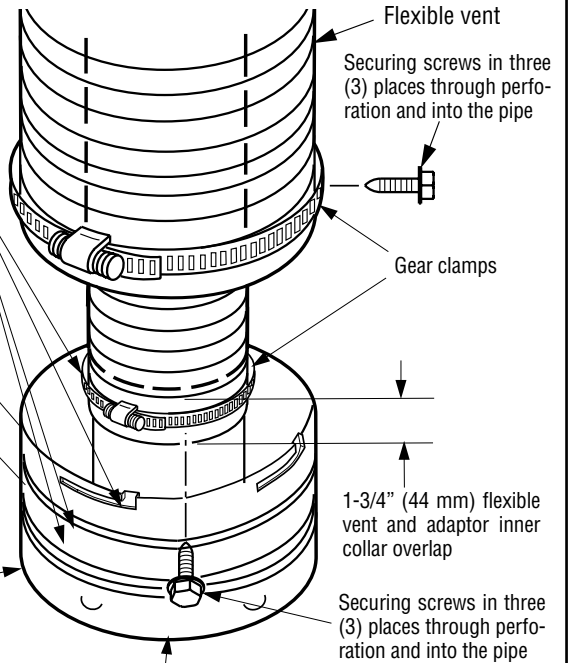

Figure 25
**NOTE:** **Secure Flex**® components can be purchased separately and attached to bulk lengths of **Secure Flex** flexible vent cut to size at the job site. Attach the flexible vent to the **Secure Flex** terminations as it was attached to the adaptor (Figure 25).